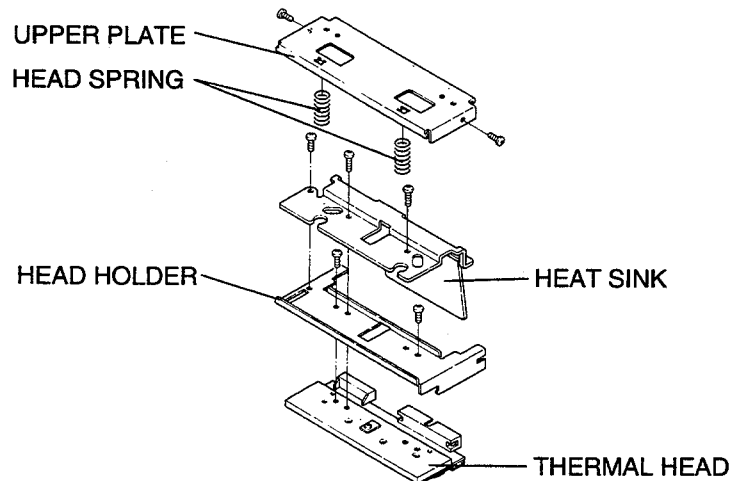

Fig. 2-4
5. Remove the screws securing the UPPER PLATE.(Fig.2-4)
7. Remove the 3 screws securing the HEAT SINK. (Fig.2-4)